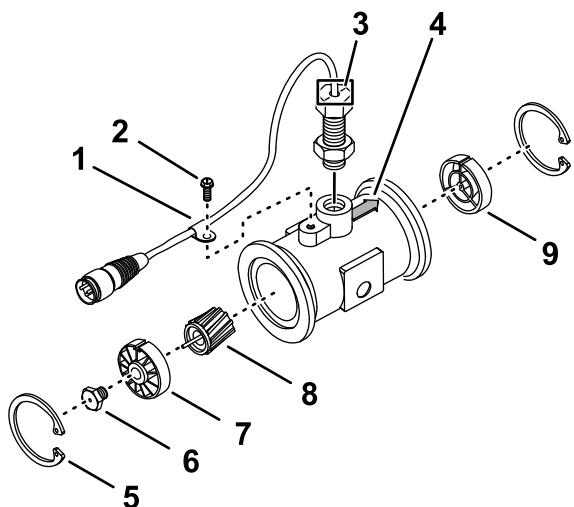

Figure 206
3. Remove the retainer ring on the upstream side (Figure 206).
7. Install the sensor until it gently touches the bottom of the housing, then back out the sensor until the alignment marks are parallel with the flow arrow of the flanged body (Figure 206).